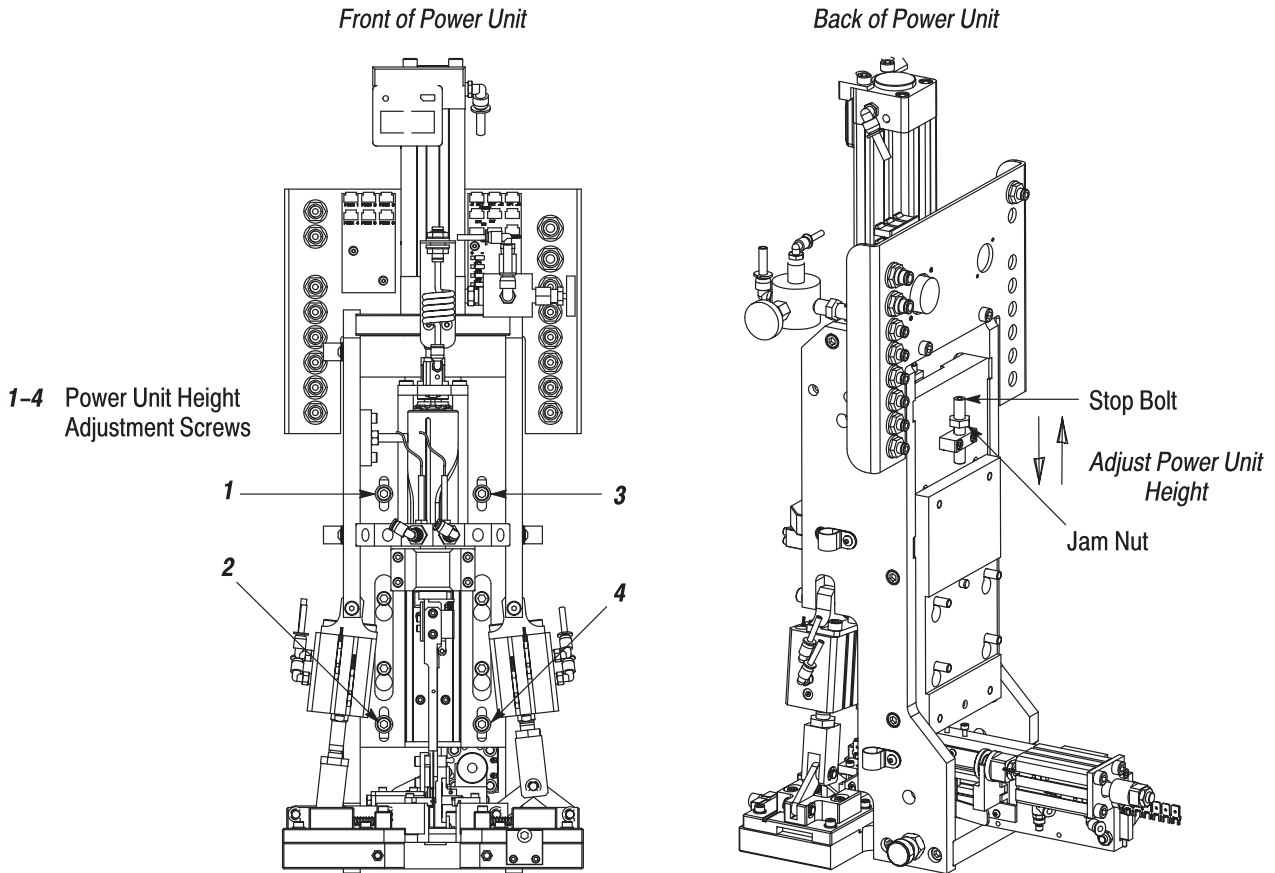

Figure 15
5.11. Power Unit Height (Terminal Insertion Depth) Adjustment (Refer to Figure 15)